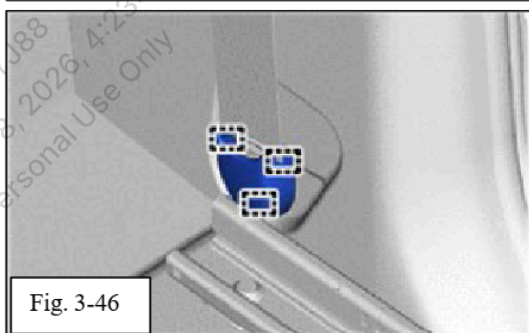

Fig. 3-46
- (am) Re-install the LH side seat belt lower anchor cover (Fig. 3-46).